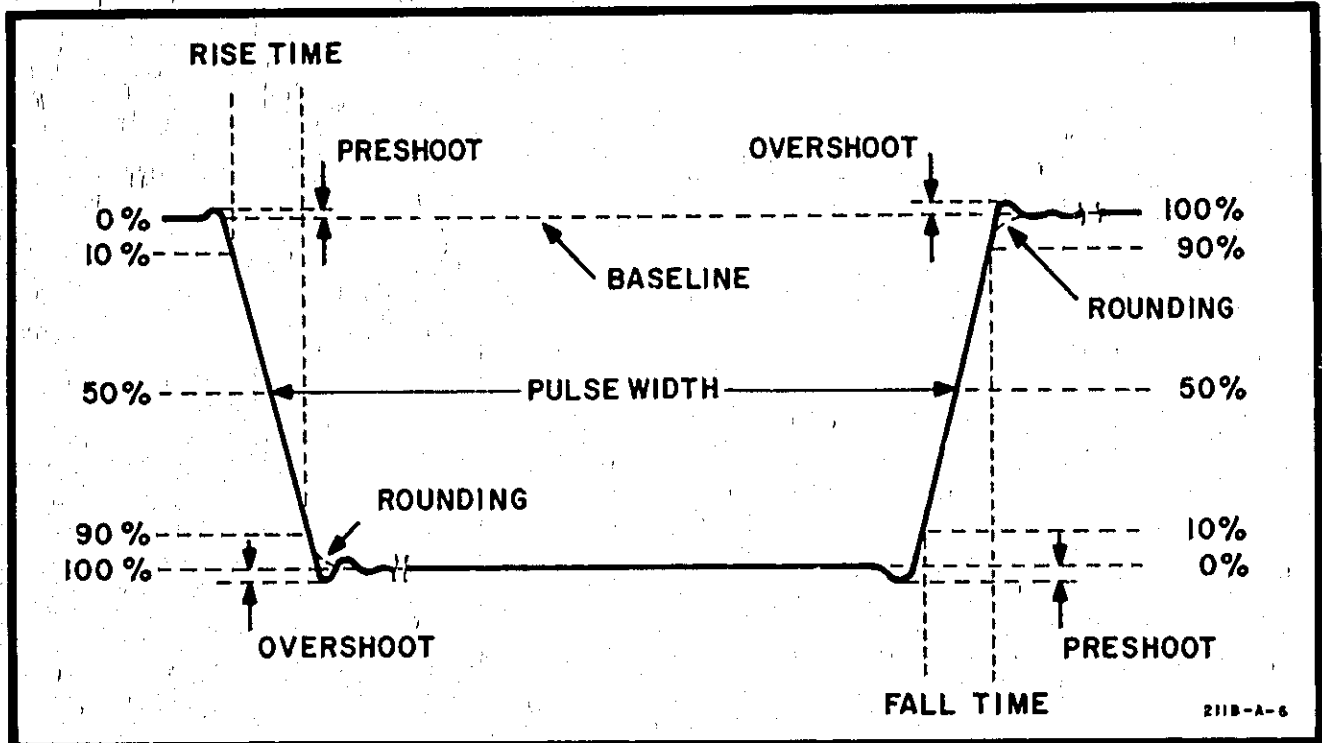

Figure 5-1. Typical Waveform Characteristics
for warm up. Perform the checks and adjustments in the same sequence as they are listed. Figure 5-1 is a typical waveform which illustrates points that are described in this section.
a. See figure 5-1 for definition of pulse characteristics.